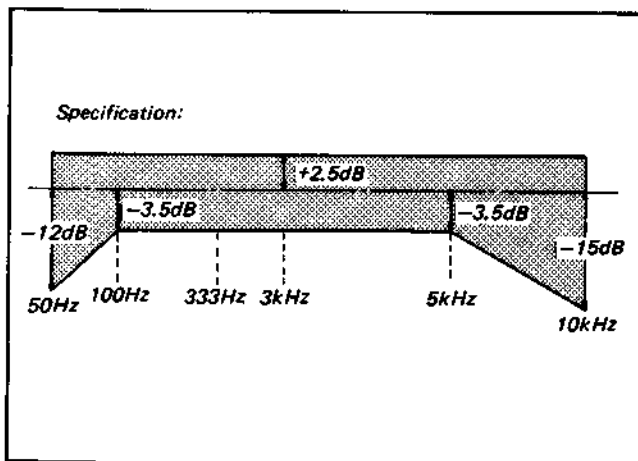

Fig. 4-5-1. Overall frequency characteristic check
- (1) Set the oscillator frequency to 333 Hz and adjust the AUDIO terminal level with the attenuator for  $-25$  dB.
- (2) Record the signal.
- (3) Change the oscillator signal to 50 Hz, 100 Hz, 333 Hz, 3 kHz, 5 kHz and 10 kHz.
- (4) Record the signals.
- (5) Play back the recorded signals.
- (6) Ensure that the output levels are within the specified values. (See Fig. 4-5-1.)